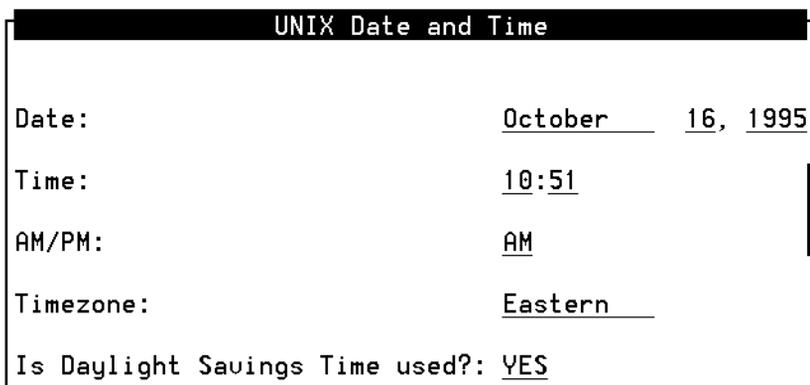

Figure 3-10. UNIX Date and Time Window
The system displays the UNIX Date and Time window (Figure 3-10).
1. Place the cursor on the `Month` field in the UNIX Date and Time window (Figure 3-10).